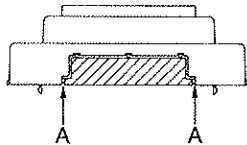

Fig. 11
**Remarks.** Cut off the point "A" as per figure 11. by a knife etc. and tear off the part shown by slashes.